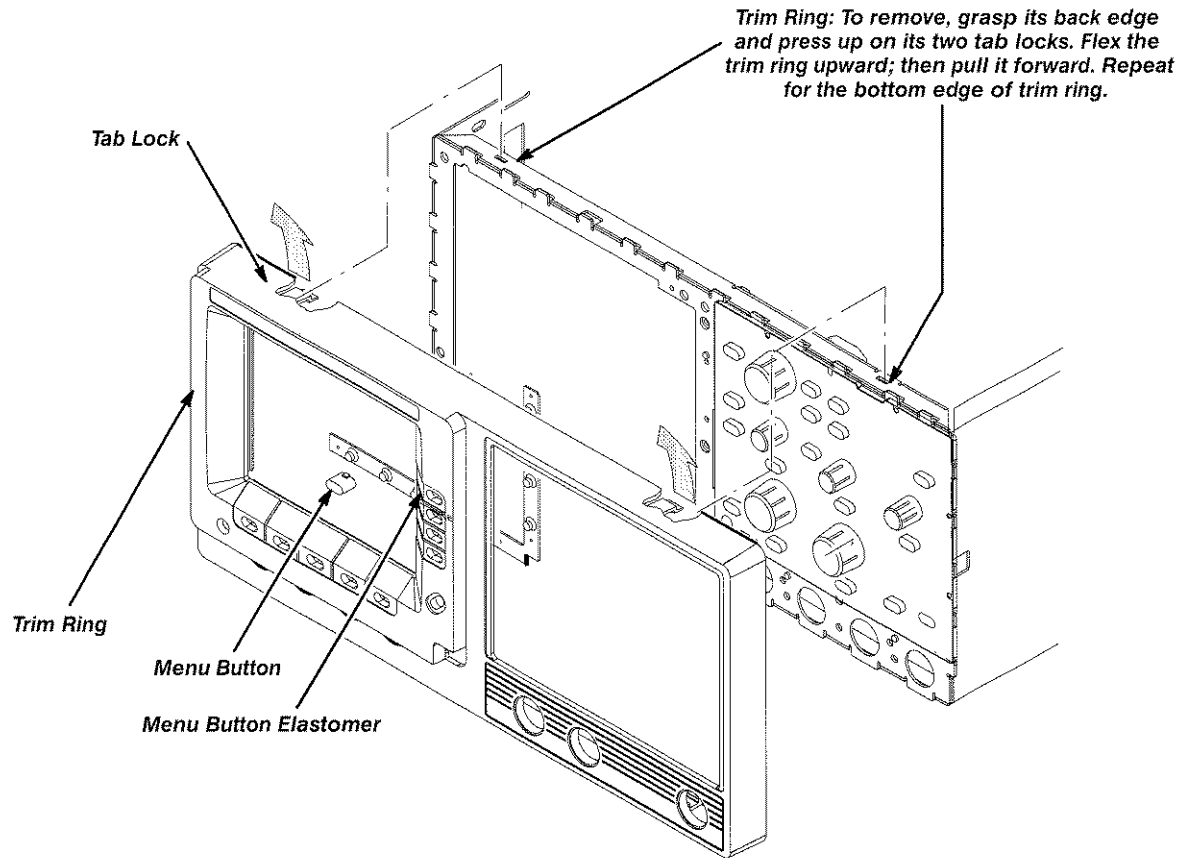

Figure 8-8: Trim Ring and Menu Buttons Removal
1. Slide a flat-bladed spudger between the chassis and the plastic front trim, near one of the four flex locks. See Figure 8-8.